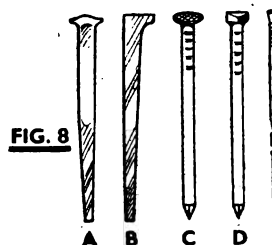

FIG. 8
**Kinds of Nails.**—There is a tremendous variety of nails made for various purposes. For straightforward woodwork, however, you need not go beyond those shown in Fig. 8. So far as carpentry is concerned the cut clasp nail at A is probably the most useful because of its great strength. Next is the cut brad at B, a nail which is made in two weights, the heavier for general work, and the lighter for floor boarding. For the latter purpose it does not make so large a hole.